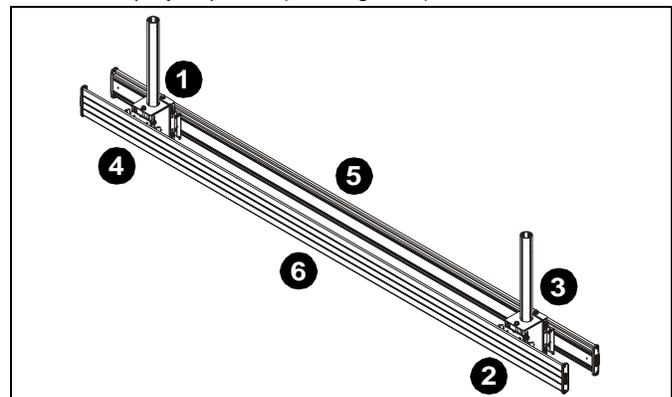

Figure 8
**IMPORTANT ! :** Install displays by placing the first display on the mount, and then adding the second display on the other side of the mount at the opposite end of the mount. Repeat for remaining end displays, and add center displays last. (See Figure 8)